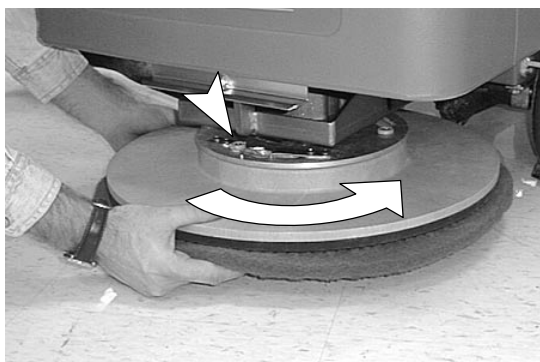

FIG. 9
- Align pad driver mounting studs with slots in motor hub. Give the driver a quick turn toward the motor hub spring clip. Be certain that the spring clip locks into one of the studs before operating machine (*Figure 9*).